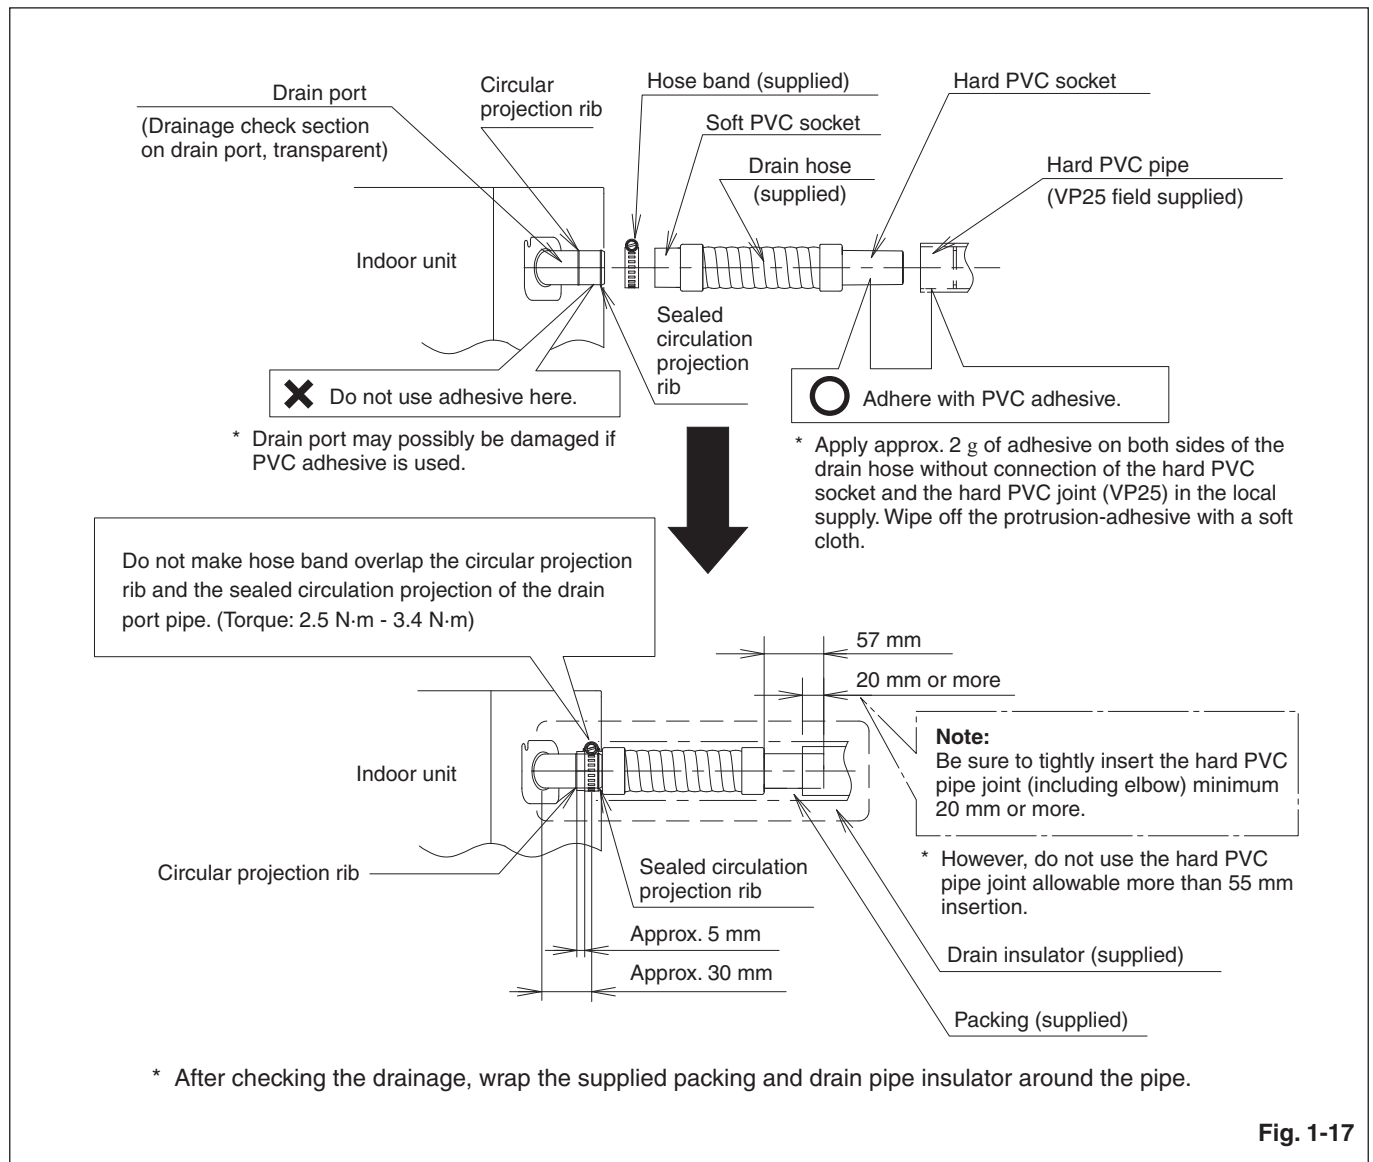

Fig. 1-17
- Move the hose band so that the center position of the hose band can be placed approx. 30 mm away from the external plate of the indoor unit. (Fig. 1-17)